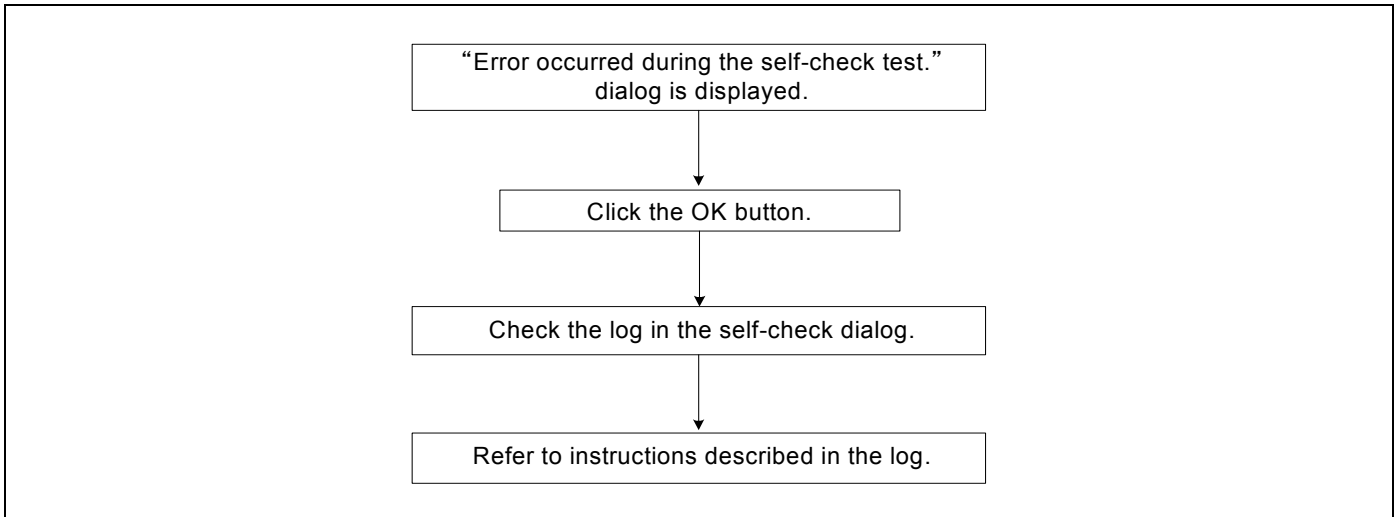

Figure 6.2 Flowchart to check the self-check error
- (1) Recheck the connection of the E100 emulator main unit and MCU unit.
- (2) Redownload the proper firmware.
- (3) Check the self-check error log of the debugger software, and refer to the instruction described in it. (See Figure 6.2)